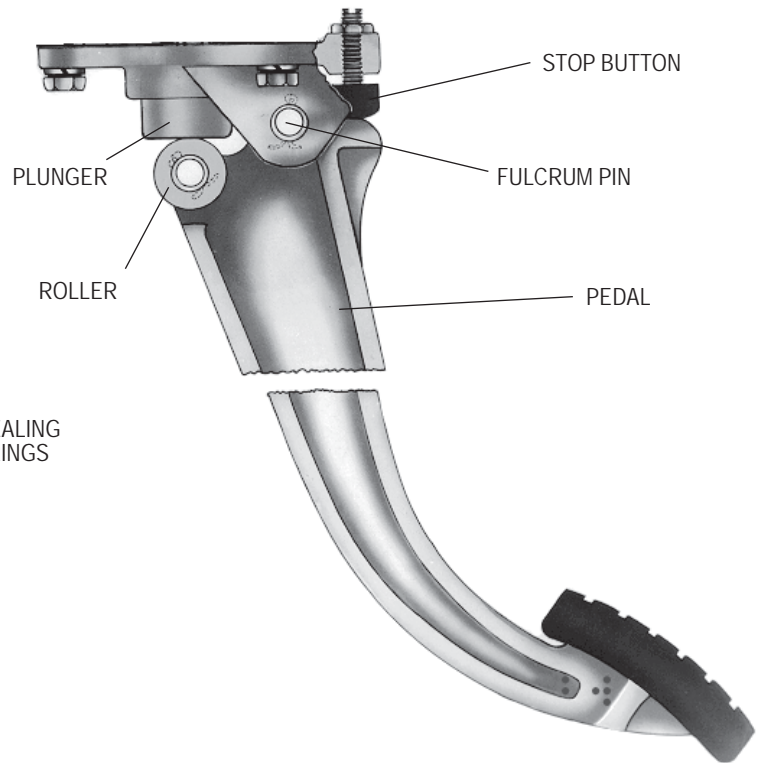

FIGURE 2 - E-7™ DUAL BRAKE VALVE
DISASSEMBLY (REFER TO FIGURE 2)
Some E-7™ brake valves have an air exhaust check valve (13, 21 & 22) as shown on Figure 2. If so, remove screw (21), and washer (22), and discard diaphragm (13). Replace the exhaust check valve diaphragm (13) and secure with the screw (21) and washer (22).